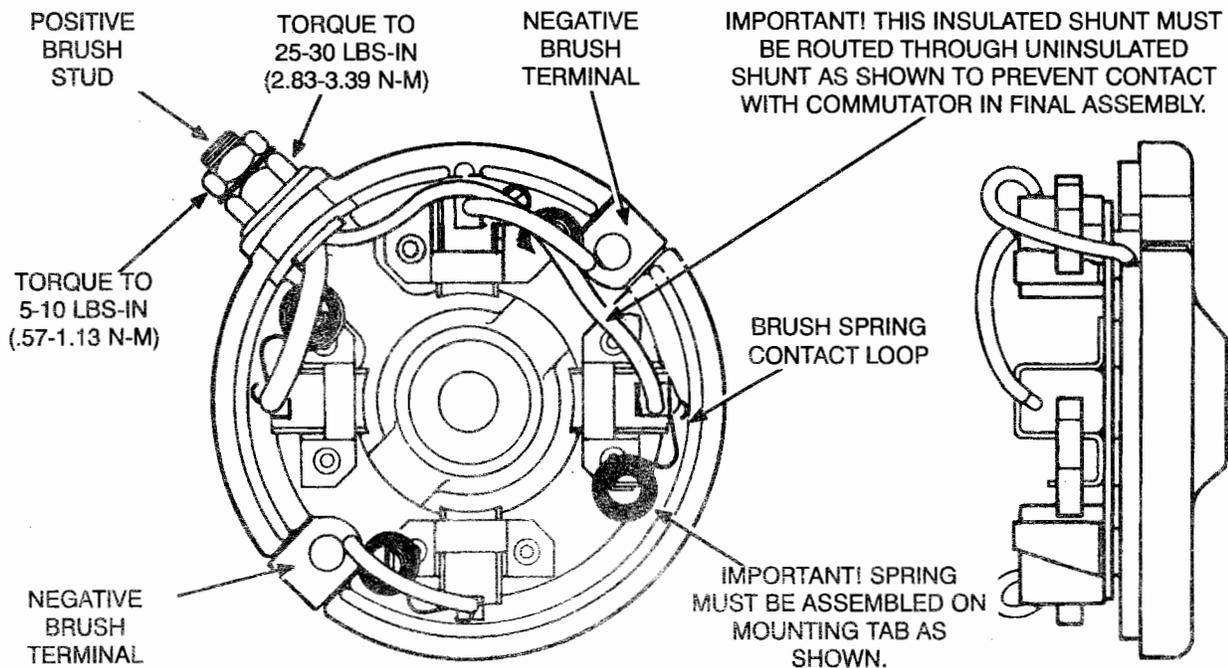

FIGURE 6-37. BRUSH END CAP
2. Mount the brush springs on tabs as shown in Figure 6-37. Using a small screwdriver, turn the spring counterclockwise to torque it, so the contact loop is inside the brush holder. The spring should be pushed down to the mounting tab shoulder.